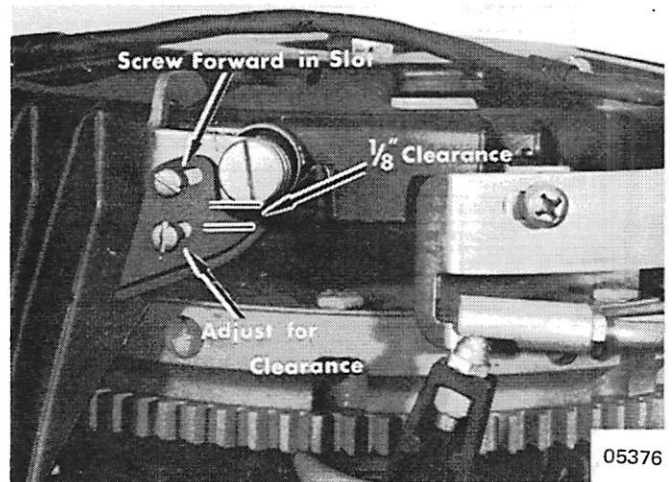

Figure 2. Position of Throttle Lockout Cam
2. If necessary to readjust, position throttle lockout cam as shown in Figure 2.